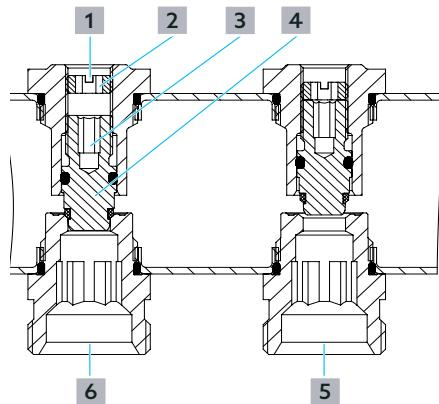

Fig. 3: Design of the regulating insert
2. Open the valve spindle (see Fig. 3 on page 20 (4)) by turning it anticlockwise according to the calculated preset value.